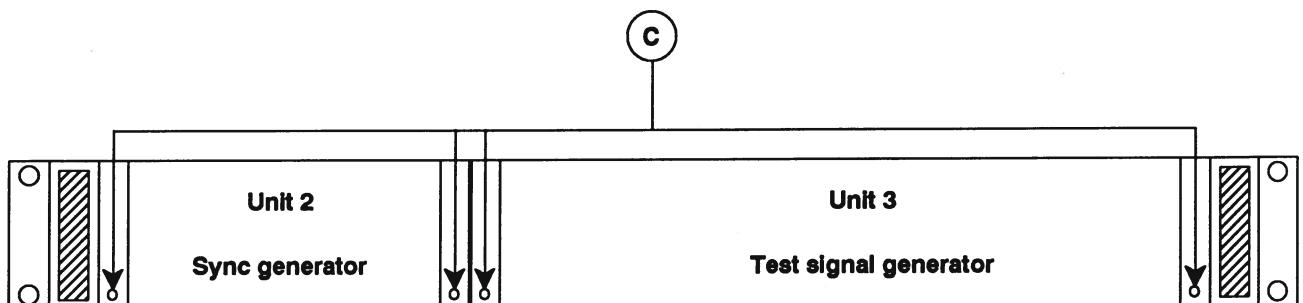

Fig. 5-5 Unit location, front
- Remove the screws "C" securing the unit(s) of interest and pull the unit(s) forward (see fig. 5-5).